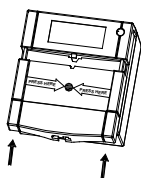

Fig. 7: Reset of operating elements
7. Clamp the front to the bottom (see fig. 7).